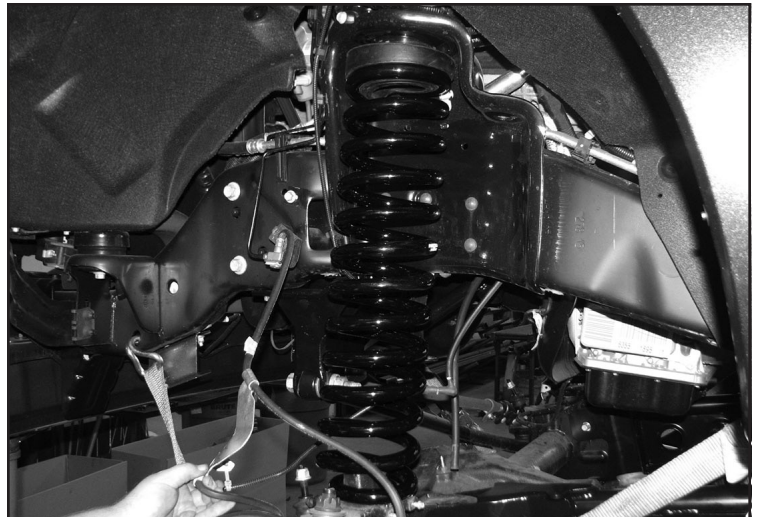

FIGURE 3 - STEP 7
7. Install FT30869 (2.5" Coil spring) into the factory location using the factory upper rubber isolator. Repeat on opposite side. **SEE FIGURE 3**